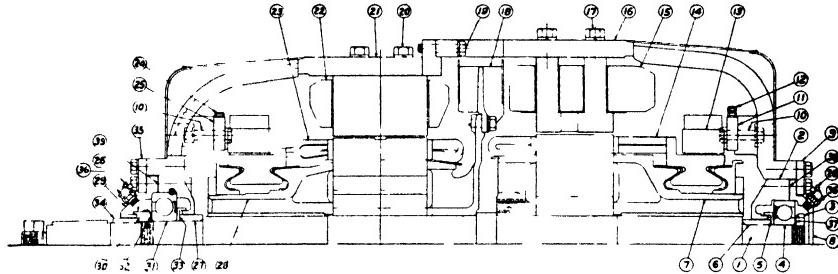

Fig. 9 Longitudinal Section, Exciter-Auxiliary Generator Set
**Disassembly of the Unit.** Refer to Longitudinal Section Fig. 9.